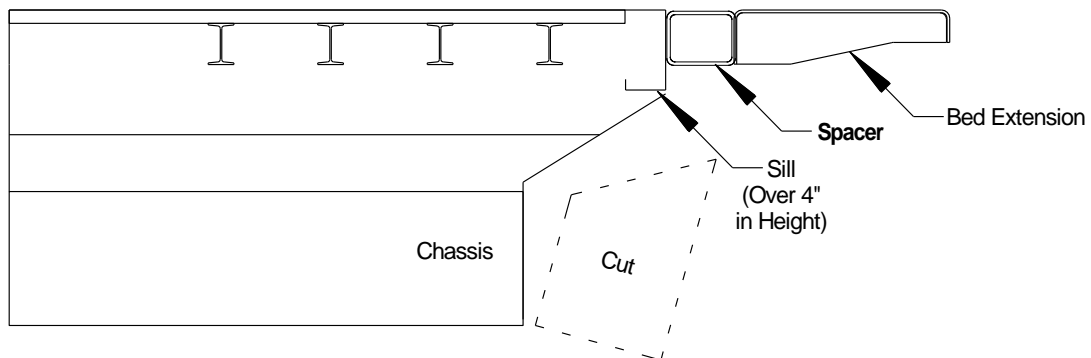

Fig. 2
- If the vehicles sill measures more than 4" in height, add a spacer to the rear of the vehicle, **Fig. 2**. The spacer will shift the bed extension back allowing the platform to clear the bottom of the sill when it is in stored position. Reference cutout dimensions from Step 1 to determine the chassis cutout.